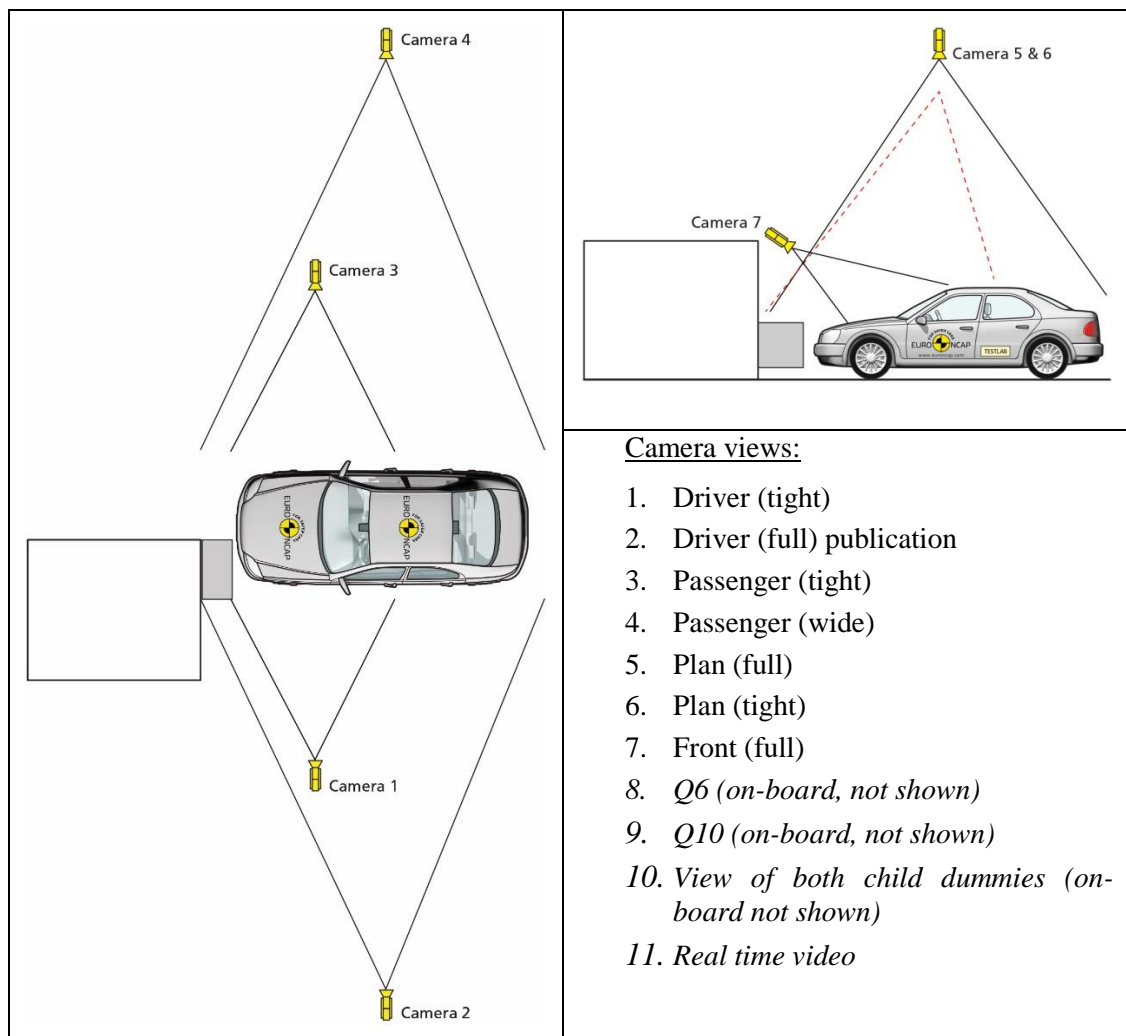

Figure 3: Locations for Cameras 1 to 7 (Frontal Offset Deformable Barrier).
A minimum of 7 cameras should be installed around the test vehicle, positioned as indicated in Figure 3 below. Three (3) additional on-board cameras for child dummy views are to be used. A separate camera (not listed) must record the crash in real time.